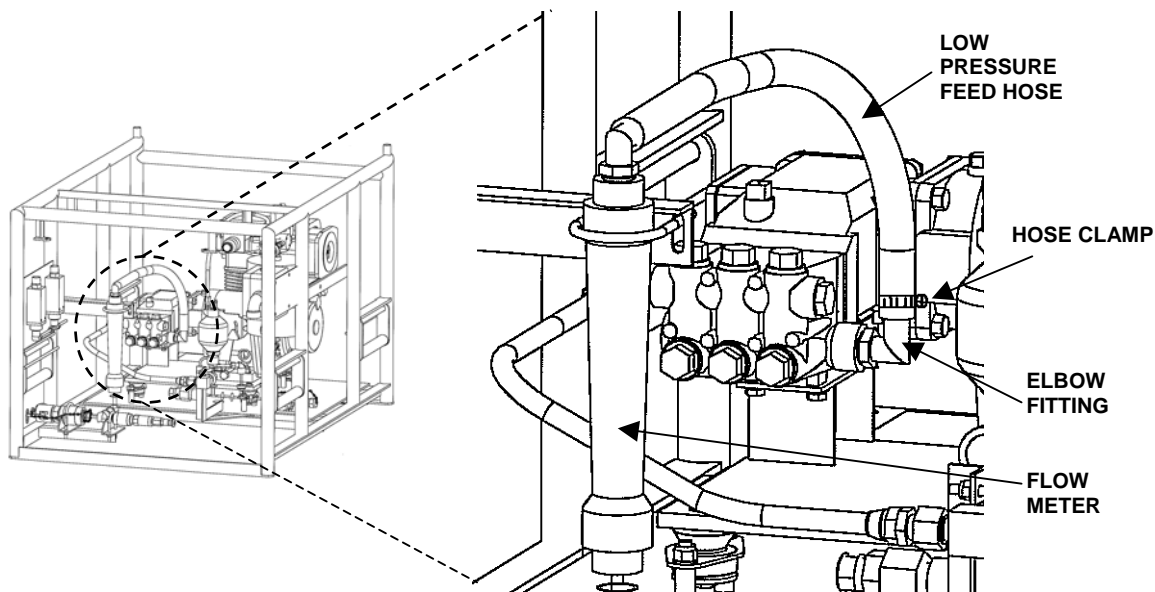

Figure 8. High-Pressure Pump Draining.
- a. Remove the hose clamp. See Figure 8.